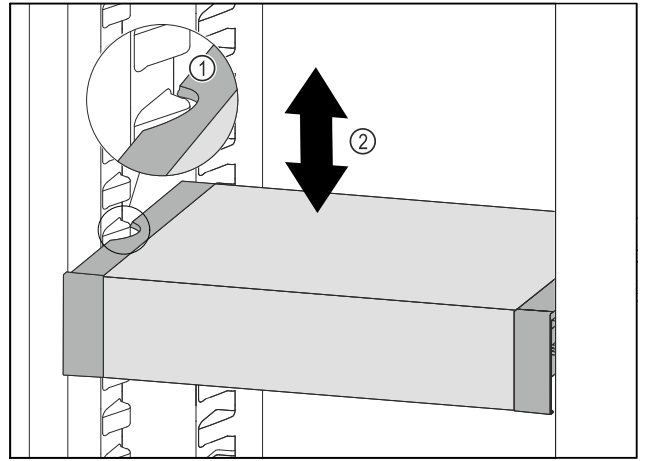

Fig. 129
- Pull VarioSafe forwards until the recesses in the side of the VarioSafe are at the level of the support rib in the refrigerator compartment. Fig. 129 (1)
- Move VarioSafe up or down in the refrigerator compartment until the desired height is reached. Fig. 129 (2)